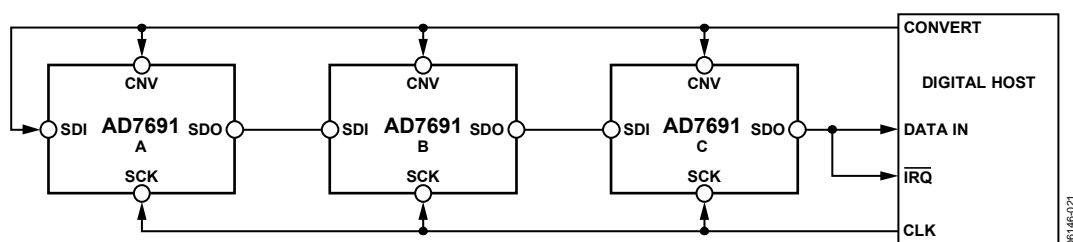
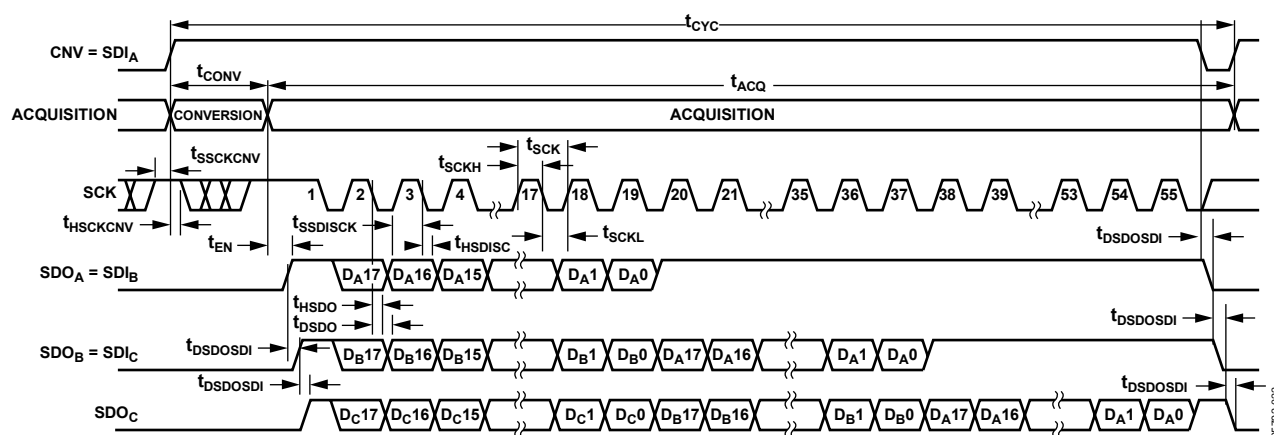

Figure 44. Chain Mode with Busy Indicator Connection Diagram
Figure 45. Chain Mode with Busy Indicator Serial Interface Timing
- In the chain mode if SCK is high during the CNV rising edge (see Figure 45).
A connection diagram example using three AD7691s is shown in Figure 44, and the corresponding timing is given in Figure 45.
subsequent data readback. When all ADCs in the chain have completed their conversions, the SDO pin of the ADC closest to the digital host (see the AD7691 ADC labeled C in Figure 44) is driven high. This transition on SDO can be used as a busy indicator to trigger the data readback controlled by the digital host. The AD7691 then enters the acquisition phase and powers down. The data bits stored in the internal shift register are clocked out, MSB first, by subsequent SCK falling edges. For each ADC, SDI feeds the input of the internal shift register and is clocked by the SCK falling edge. Each ADC in the chain outputs its data MSB first, and $18 \times N + 1$ clocks are required to readback the N ADCs. Although the rising edge can be used to capture the data, a digital host using the SCK falling edge allows a faster reading rate and consequently more AD7691s in the chain, provided the digital host has an acceptable hold time.